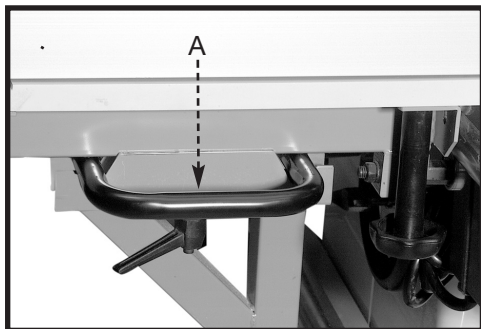
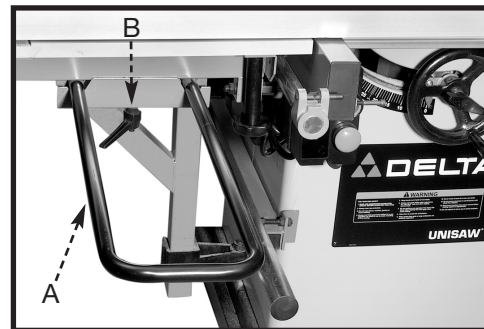

Fig. 70
Fig. 71
A handle (A) Figs. 70 and 71 (used to slide the table) is supplied on the front of the sliding table mechanism. Depending on the size of the workpiece and/or operator convenience, you can move the handle (A) (Fig. 70) out by loosening the clamp handle (B) Fig. 71, sliding the handle (A) to the desired position, and tightening the clamp handle (B).